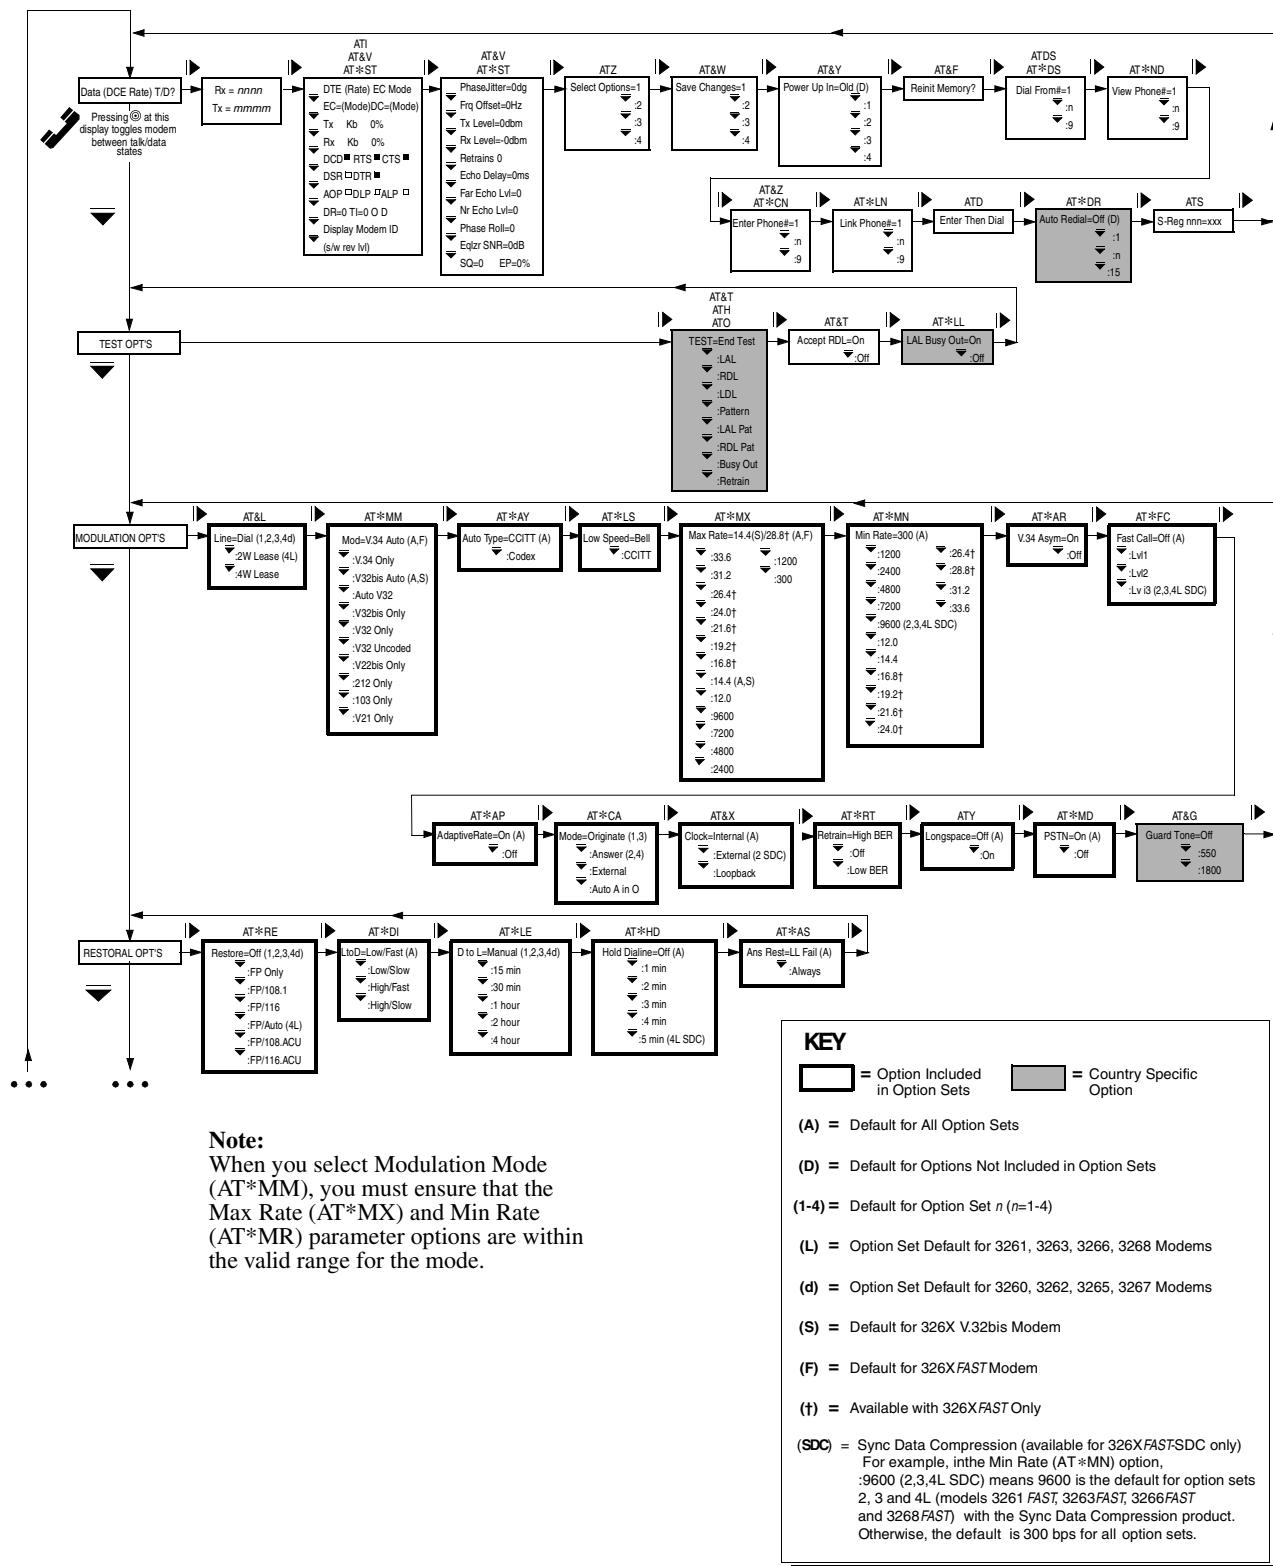

Figure A-1. The 326X Series Modem Menu Structure - Part 1 of 4
- The **menu structure** (**Figures A-1 to A-4**): front panel options, option settings, and AT, AT&, AT* command equivalents, and default settings. (The *Reference Card* shows the menu tree as well.)